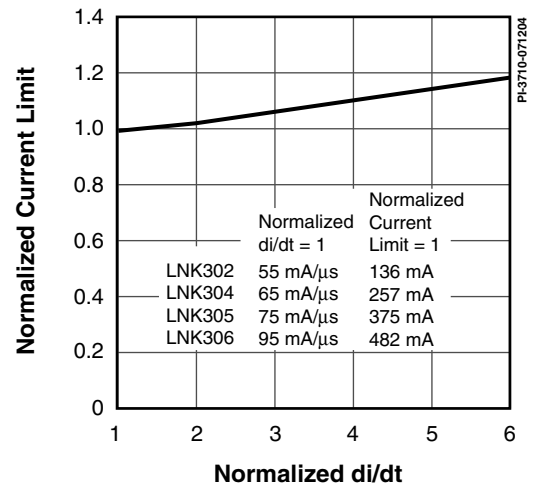

Figure 13. Current Limit vs. di/dt.
- E. For current limit at other  $di/dt$  values, refer to Figure 13.